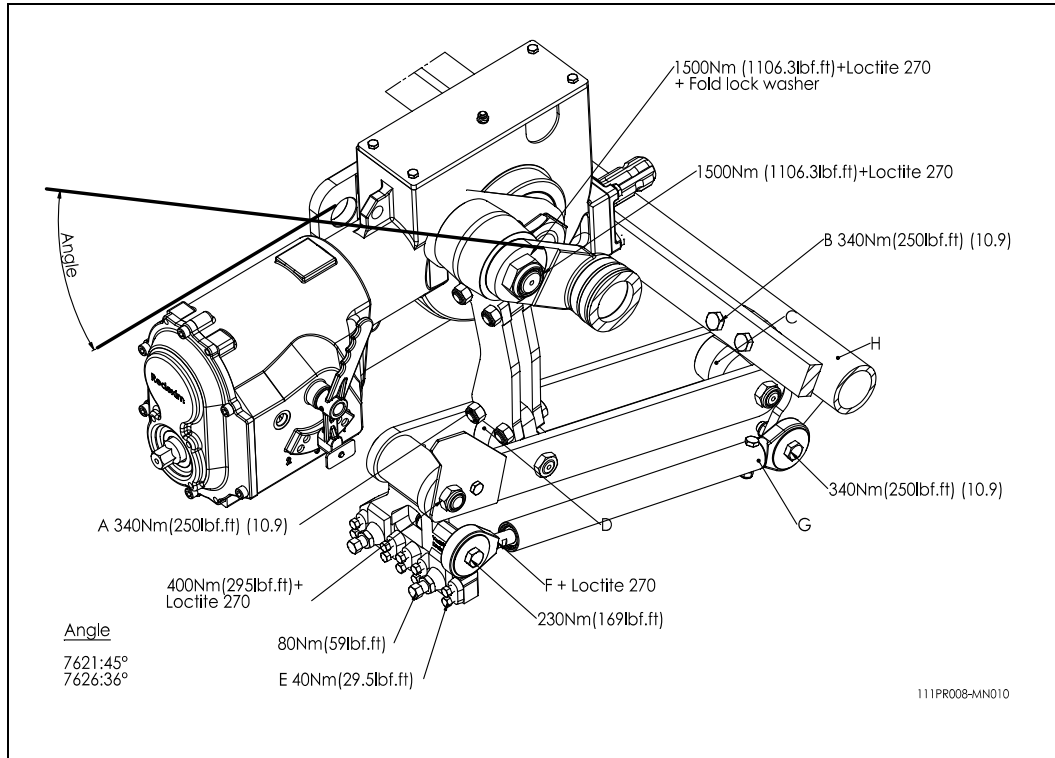

Fig. 15
In fig. 15, the torque values for the most important bolts/nuts are shown. The bolts and nuts for which no values are given must be tightened with the same torque as similar bolts and nuts. When bolts and nuts come loose, Loctite may be used to prevent this from occurring again.
14. Tighten nut VIII with the torque indicated in figure 15.
6. After re-installing the throw and/or bearing, re-install the parts in the same order in which they were removed. Use Loctite where indicated in figure 15.
If an element is no longer in line with the adjacent elements, the alignment can be corrected as follows: (See fig. 15)